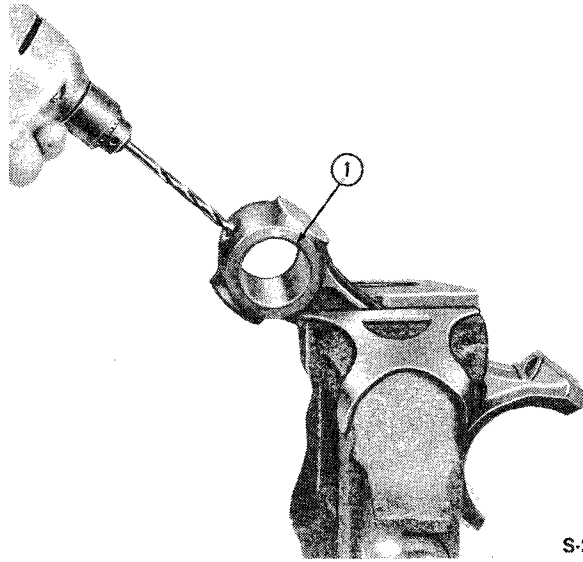

Figure 50
6. After installation of a new connecting rod bushing, use the hole in the top of the rod as a guide and drill a 0.25 in. (6.4 mm) diameter hole through one wall of the bushing, Figure 50.